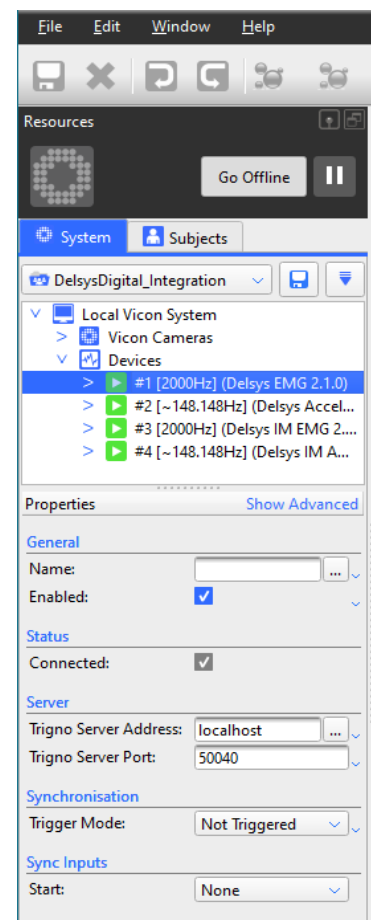

Figure 7: Delsys EMG devices containing data streaming from the Trigno System.
4. With Delsys Trigno System now available in the Devices Section of your Local Vicon System you will have four virtual devices representing the different components of the Delsys Trigno System (Figure 7):